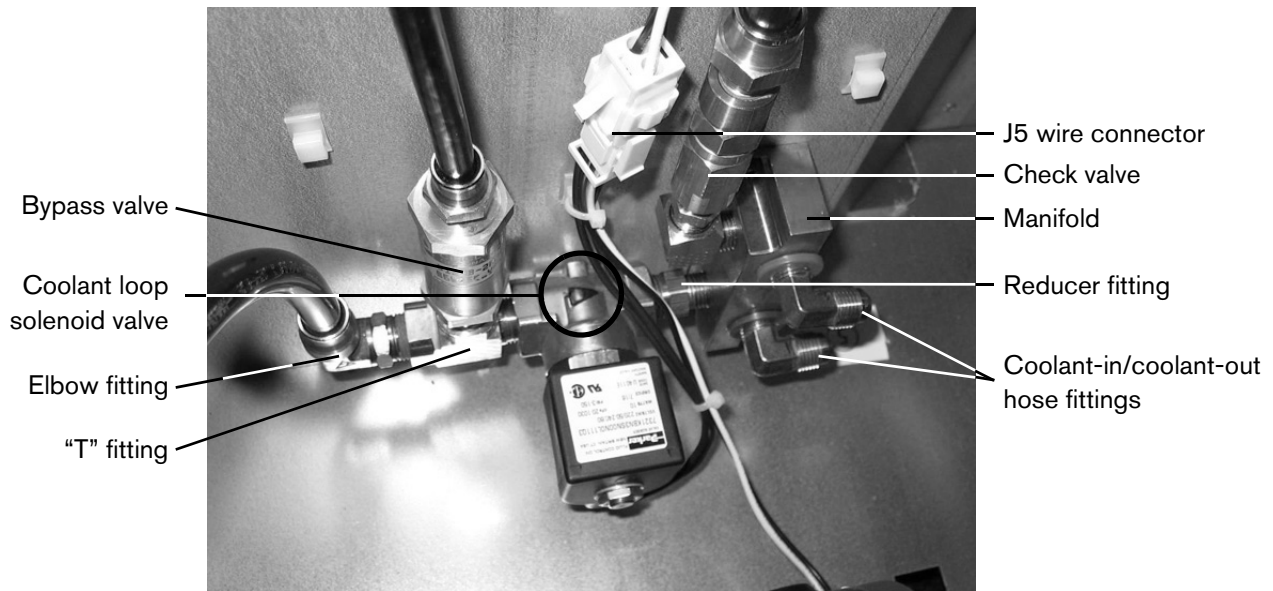

Figure 3: Coolant loop solenoid valve correctly positioned within the HPR260XD power supply
- Orient the valve correctly; the green arrow painted on the valve should point towards the rear wall of the power supply, as shown in Figure 3 below.